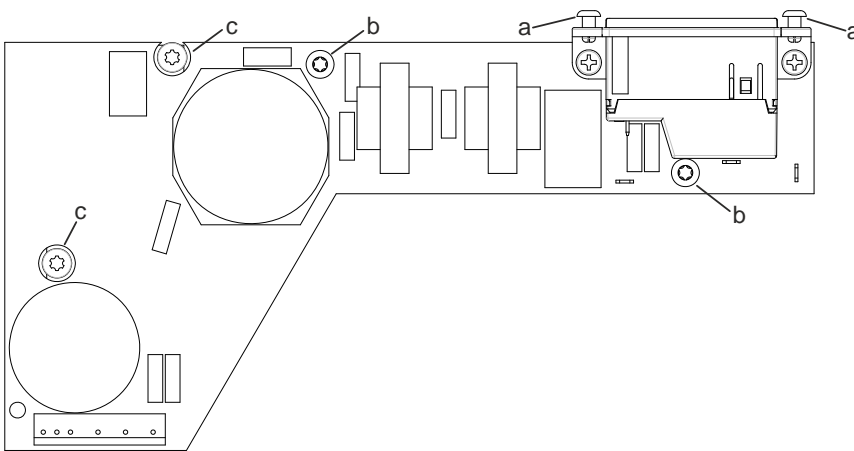

Fig. 5
- Remove both body-bound rivets (Fig. 5, c) at the appliance plug.
- Screw the four fastening screws out of the electronics (Fig. 5, b, c).
- ☞ The two screws (Fig. 5, c) are located on the cooling plate of the electronics (A3).